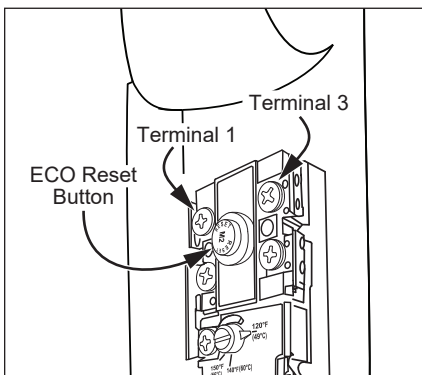

Figure 36 - Energy Cut Off (ECO) Button.
3 Check the Top Two Screws of the ECO Using a Non-Contact Circuit Tester and Confirm that Power is OFF (screw terminals 1 and 3 shown in Figure 36).
- Press the red ECO reset button (Figure 36).